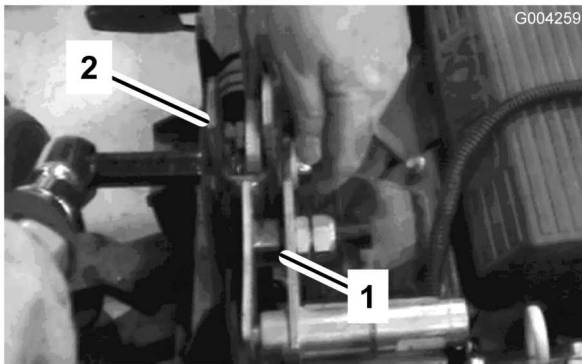

Figure 4
- Remove the bolt securing the selector assembly to the frame (Figure 4).